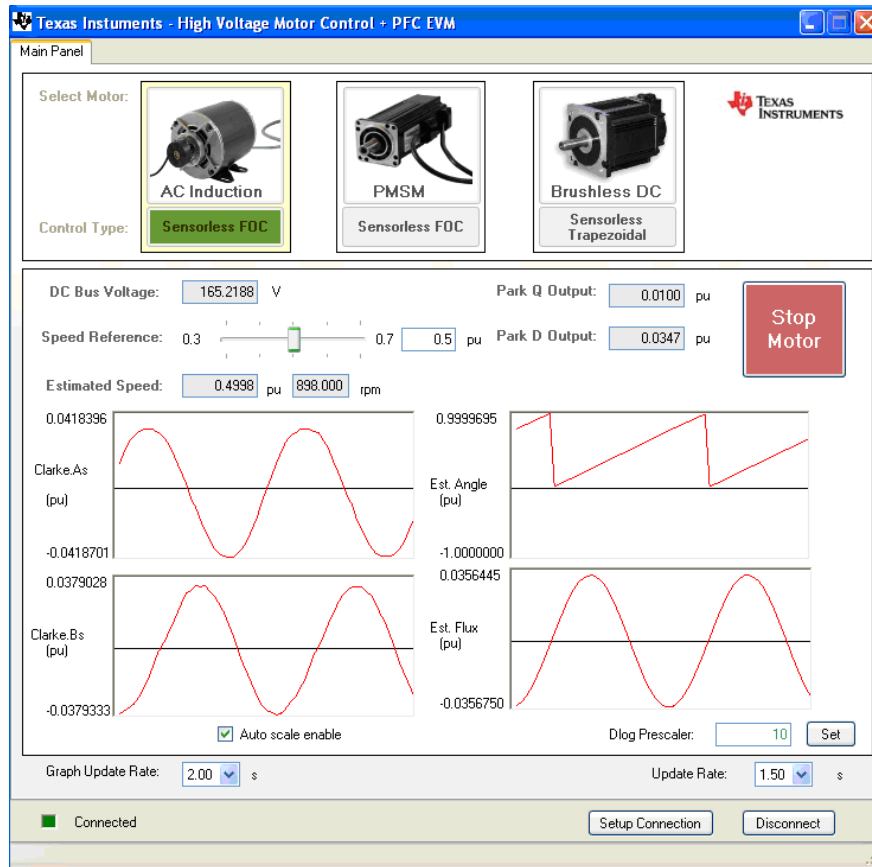

Figure 7. GUI Running ACI Motor
- **Graph Windows:** Up to four graph windows can display data captured from the controller. This data will change, depending on the motor type. For example, for an ACI motor, the graphs will display the estimated flux, estimated angle and the leg currents sensed (see Figure 7). For BLDC, the back EMFs sensed will be observed, and for PMSM, the Phase voltage, phase Duty, estimated angle and Alpha back emf is displayed.